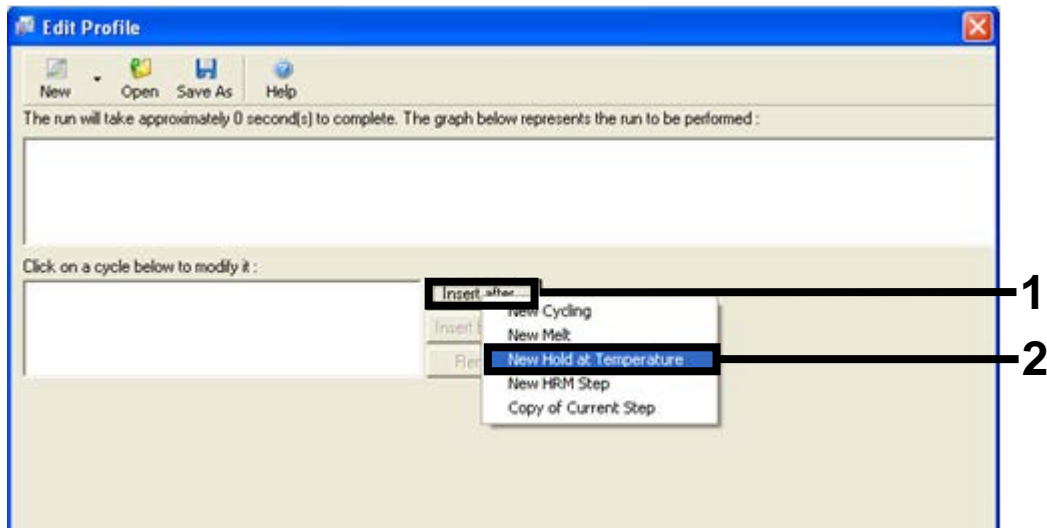

Figure 12. Inserting an initial incubation step. 1 = "Insert after" button, 2 = "New Hold at Temperature" selection.
6. Click the "Insert after" button and select *New Hold at Temperature* (Figure 12).